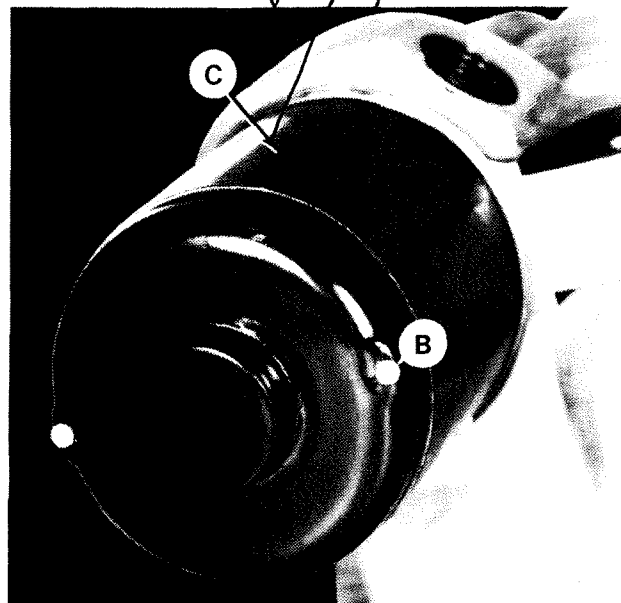

Figure 3.30 - Speed Change Motor
7. Remove two screws "B" and motor "C", Figure 3.30 .
10. Mount motor "C" using two screws "B", Figure 3.30 .
3. Remove two screws "B" and motor "C", Figure 3.30 .
5. Mount motor "C" using two screws "B", Figure 3.30 .